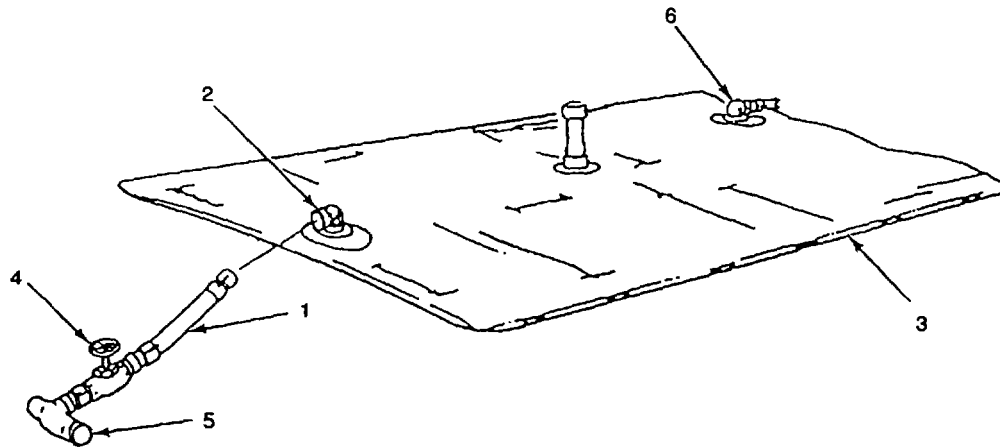

Figure 2-21. Connecting Discharge Hose Assembly
- (22) Connect female coupling half (10) on gate valve (3) to male coupling half (17). Close cam arms.
- (23) Place reducing tee/gate valve assembly at point where junction with 10-mile hoseline segment is expected.
- (24) Install 6-inch boltless coupling (para. 2-8.b.) to connect 10-mile hoseline segment (para. 2-8.d.).
- (25) Connect 4 in. X 10 ft discharge hose assembly (1, Figure 2-21) to female-to-female elbow (2) on storage tank (3). Close cam arms.